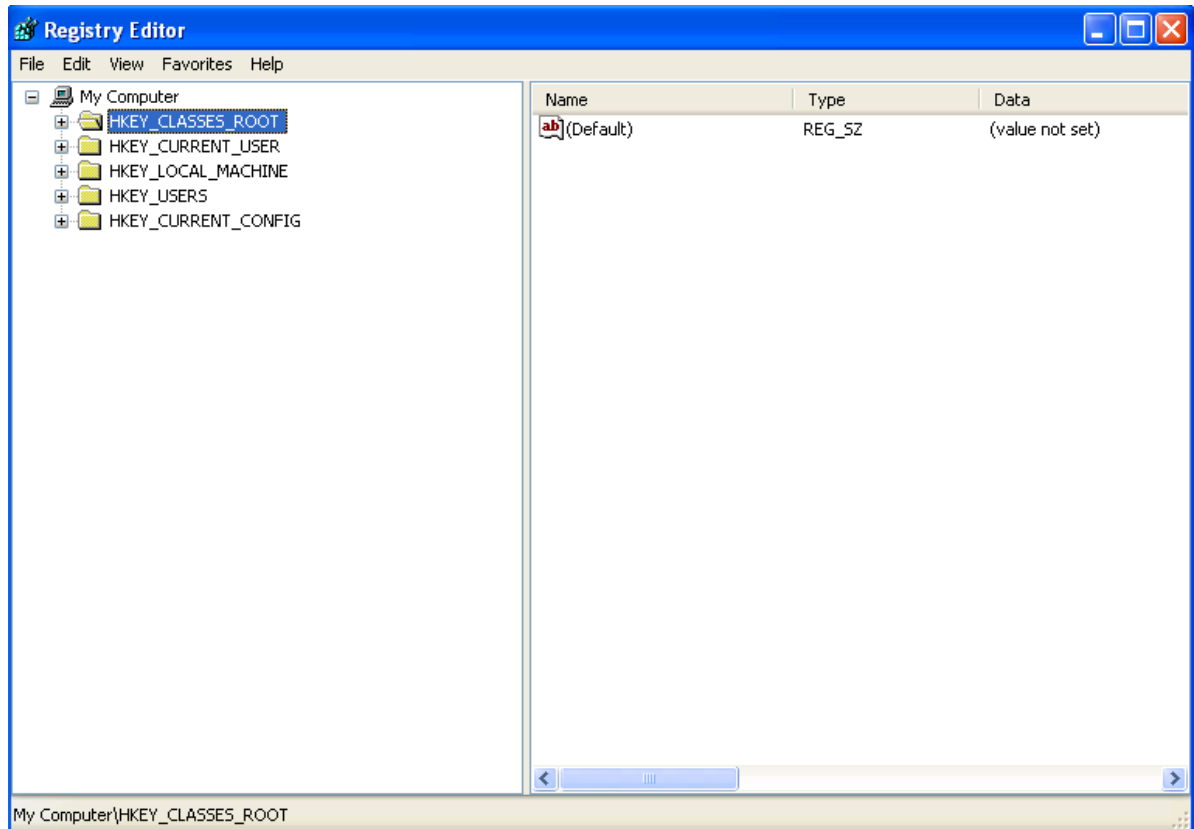

Figure 33 - Registry Editor
2. The **Registry Editor** (Figure 33) is launched.